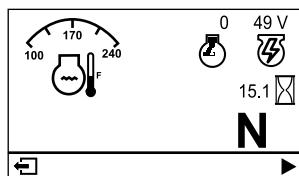

Figure 24
- **Main information screen (Figure 24):** shows current machine information while the key is in the ON position.